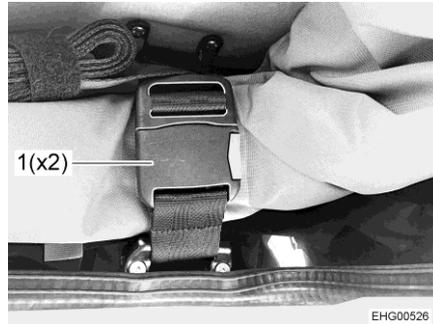

Fig. 36 Belt lock
- Open both belt locks (Fig. 36,1).